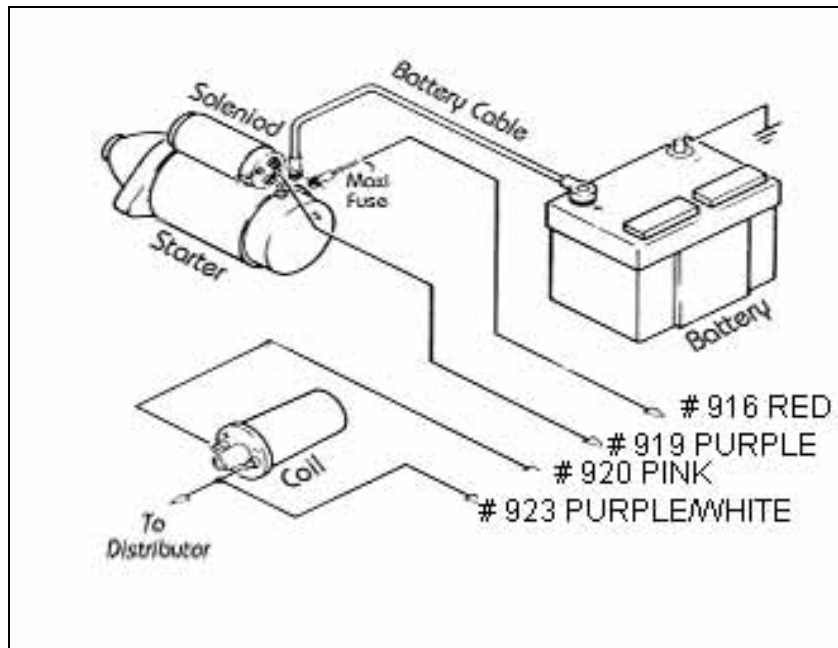

Figure 7-5 Toyota Ignition (Start-Run) System, without Elect. Igniter
7.5 Toyota Ignition (Start/Run) System. See Figure 7-5.